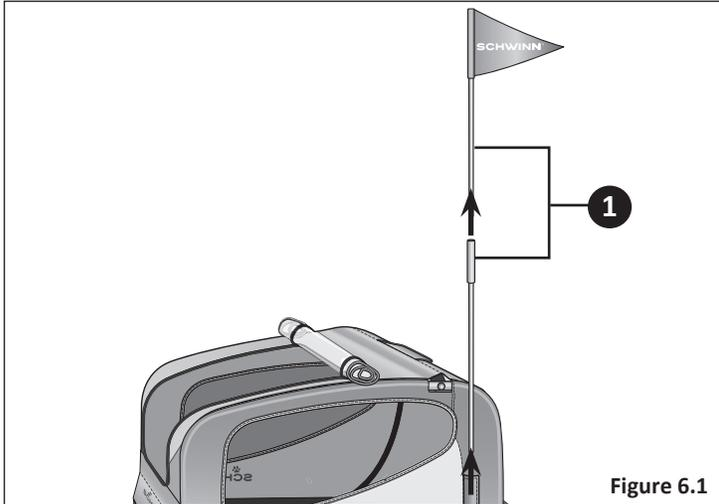

Figure 6.1
- 1 Remove the flag pole and separate the flag pole sections. **Figure 6.1**